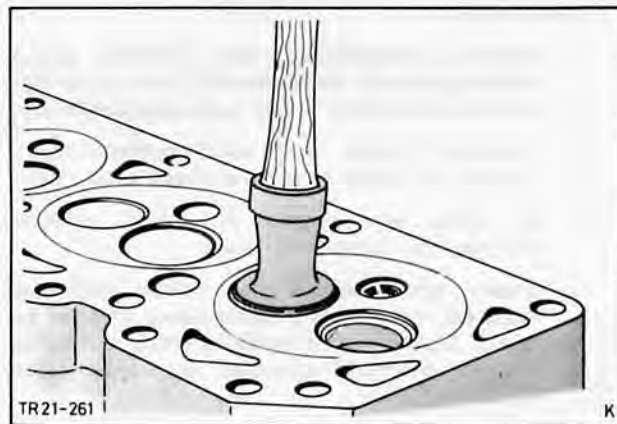

Fig. 152. Grind in valves
10. Grind in valves in cylinder head, Fig. 152. Clean all traces of grinding paste off valves and valve seats, oil valves, valve seats and inserts. Cover valve splines with adhesive foil.